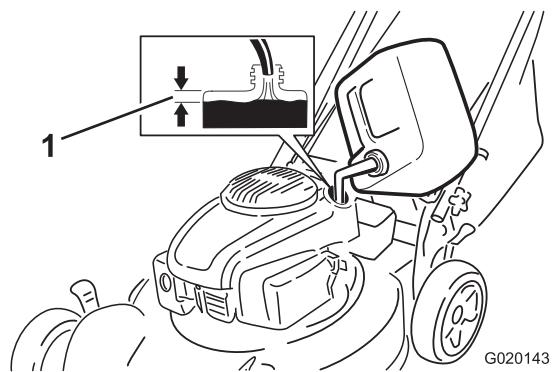

Figure 7
- Clean around the fuel-tank cap, and remove the cap from the tank (Figure 7).